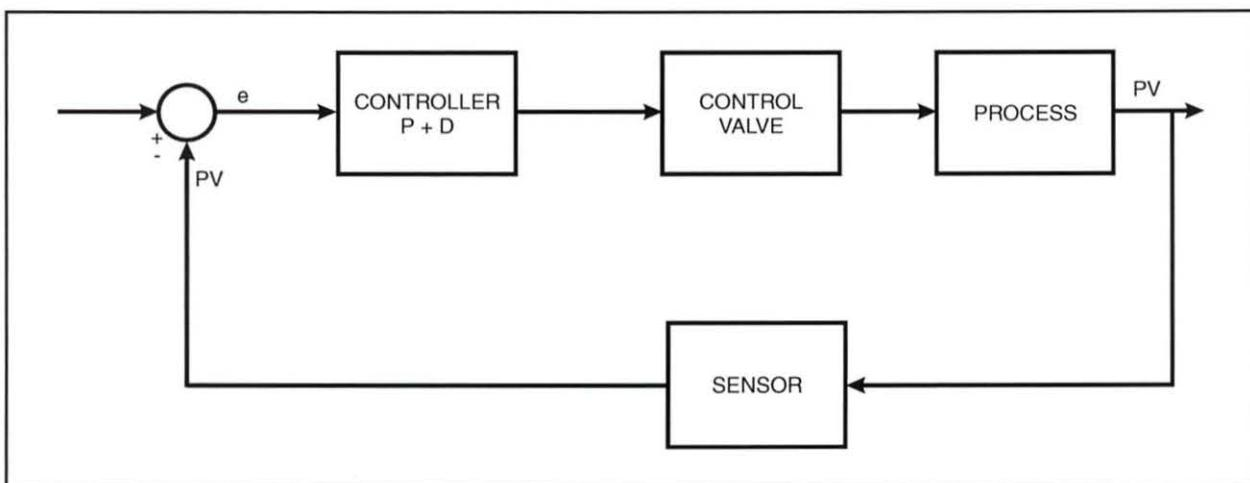

Figure 70. Block Diagram of a Process Control System Using PD Control
Proportional-Derivative (PD) control combines the proportional and derivative actions to provide an immediate response that is not only proportional to the error signal but also anticipates the error signal based on how quickly the error is changing. Figure 70 shows a block diagram of a process control system that uses PD control. The controller calculates the error and determines the required combination of proportional action and derivative action necessary to correct the error. The output is then sent to the valve to control the process.